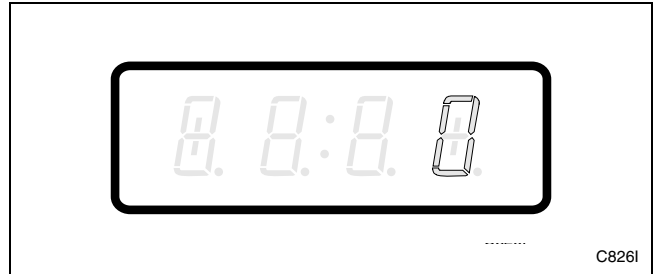

Figure 20
4. When “+004” appears in the VFD, press the START (enter) keypad. There are five digits in the Reg. Cold Wash Vend Price. The fifth digit will appear in the VFD and will flash one second on, one second off. Refer to *Figure 20*.